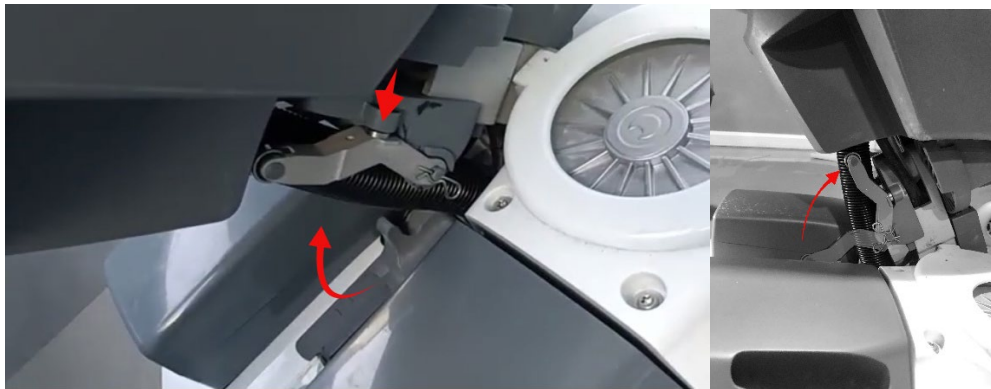

Figure 23c: bringing back in position before parking the unit.
* put the arm always back at storage position before parking the unit. (figure 23c).